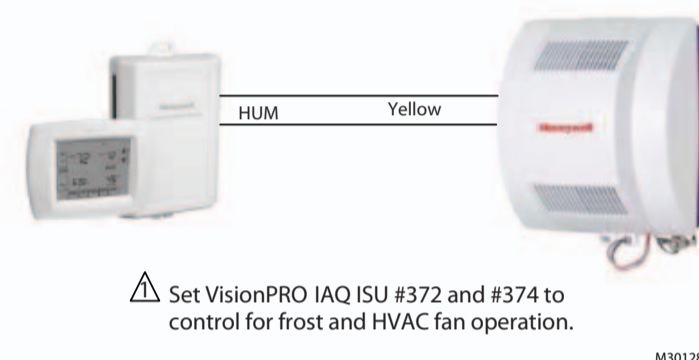

Fig. 9. Typical wiring diagram for humidifier using VisionPRO IAQ
1. Connect only the two yellow wires to the W8900 (red wire connections are not used). See the typical wiring diagram in Fig. 9.